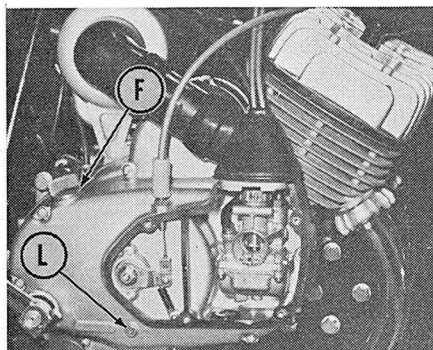
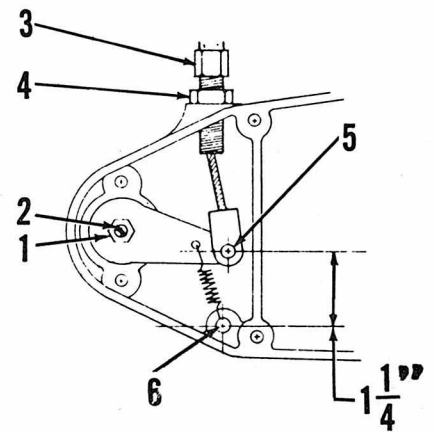

Fig. BS3-14—Transmission oil level plug is shown at L and filler plug at F. Clutch adjustment points are also shown. Refer to Fig. BS3-16.
Fig. BS3-16—Clutch adjustment points are shown. Adjustment is usually accomplished at cable adjuster (4).
The transmission contains (approx. 1 quart) of SAE10W/30 motor oil and should be maintained at level of plug (L—Fig. BS3-14).
To adjust clutch, remove the carburetor cover from right side of engine as shown in Fig. BS3-14. Loosen lock nut (4—Fig. BS3-16) and turn cable adjuster (3) until the distance between pivot pin (5) and spring pin (6) is  $1\frac{1}{4}$  inches. Tighten lock nut (4) when distance is correct. Loosen nut (1) and turn the adjusting screw (2) until free play at end of hand lever is  $\frac{3}{8}$ – $\frac{5}{8}$  inch. Make certain that nut (1) is tight after adjustment is complete.
correctly located in release screw before installing cover. Refer to previous paragraph in MAINTENANCE section for adjustment. Center of release arm pivot pin (5—Fig. BS3-16) should be 1¼ inches above center of spring pin (6).